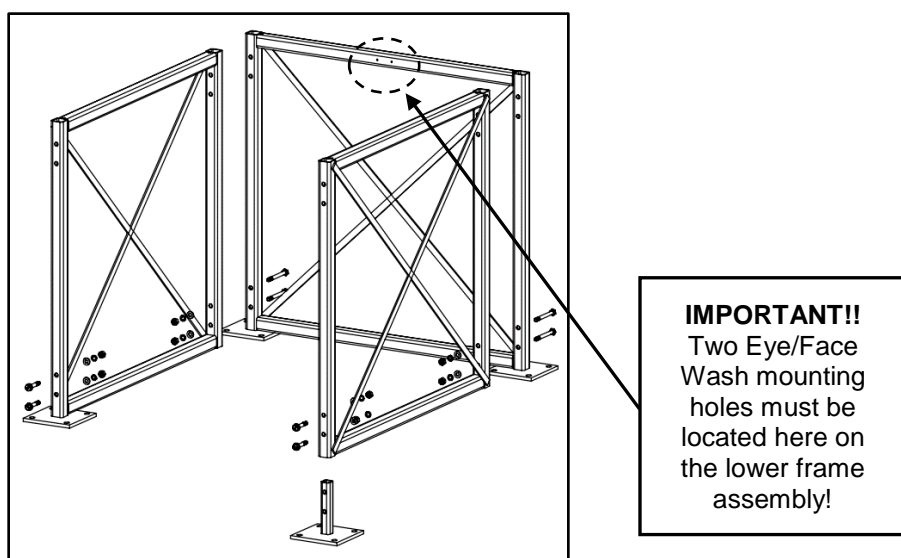

Figure 5. Lower Frame
10. Begin by assembling the lower frame shown in Figure 5. With all four (4) Frame Feet present, place one Frame Back Panel over two back Frame Feet posts. Holes must be aligned front to back and panel cross-bracing strips must be on the outside (toward the back) as shown in Figure 5.
IMPORTANT!! The two (2) mounting holes must be oriented as shown in Figure 5 to ensure unit can accept optional Model 874301S Eye/Face Wash in the future.
11. Place one (1) Frame Side Panel over each of the two (2) front Frame Feet posts with the panel cross-bracing strips to the outside as shown in Figure 5.